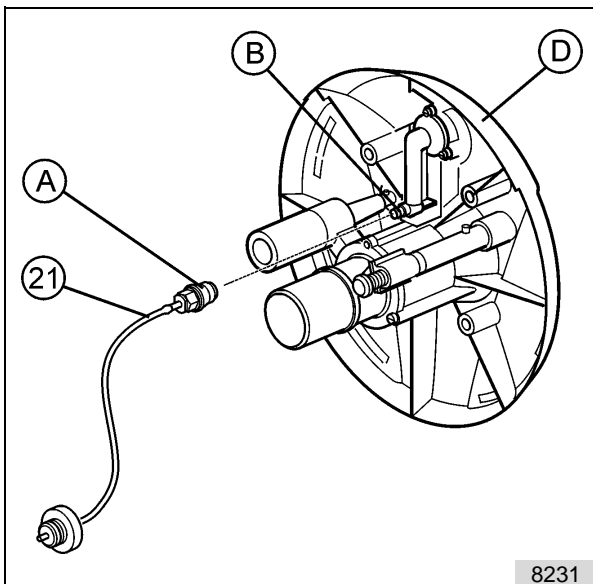

fig. 24
After connecting the air button, put on the face plate assembly (35), this allows the pressure connection and air connection to slide into one another (refer to fig. 24). Fasten to the clamp ring (72) with the screws (90.2).